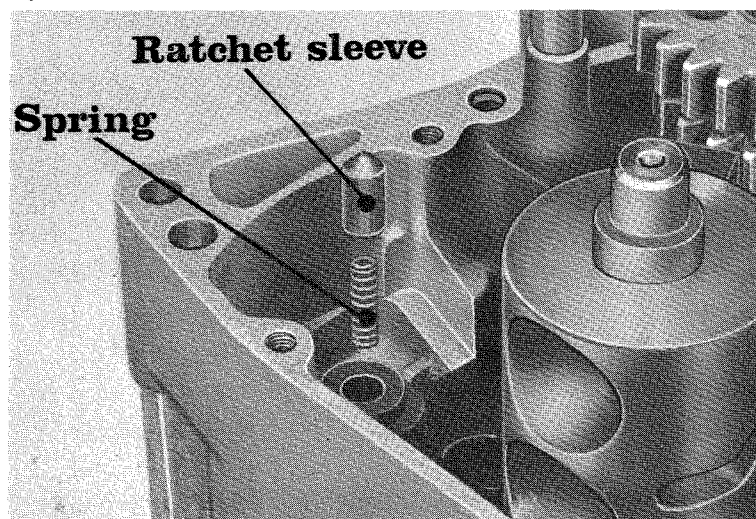

Fig. 25
25. Fit the ratchetsleeve and spring for the pawl in position. See Fig. 25.